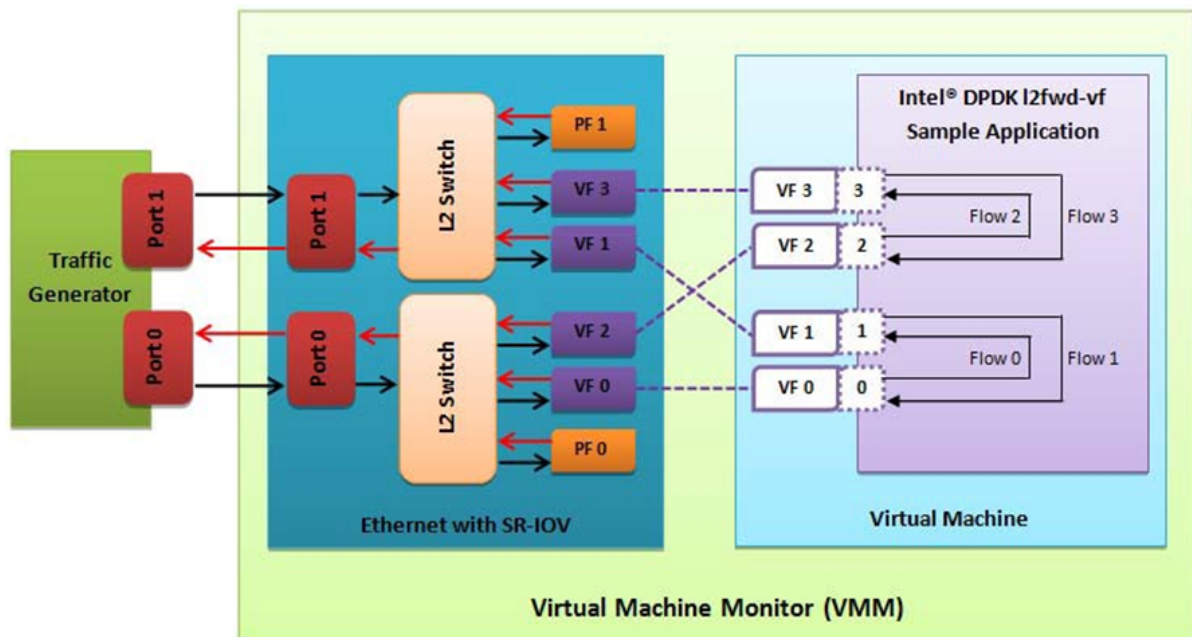

Fig. 27.2: Performance Benchmark Setup
- The Virtual Machine Monitor (see Fig. 27.2) is equivalent to a Host OS with KVM installed as described in the instructions.